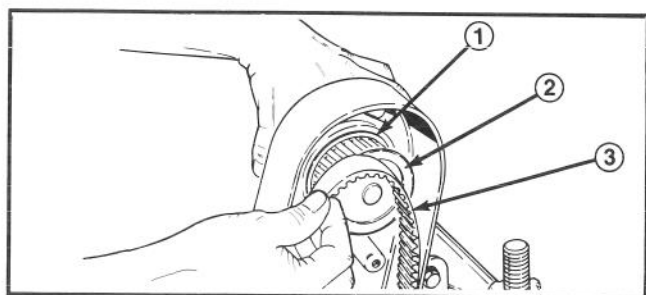

Figure 13
Note: Check to see that motor pulley set screws are tight on motor shaft before installing motor onto cutting unit (Fig. 13).
- C. Insert the reel drive motor pulley through the housing and slip the cutting unit drive belt over the pulley (Fig. 13).